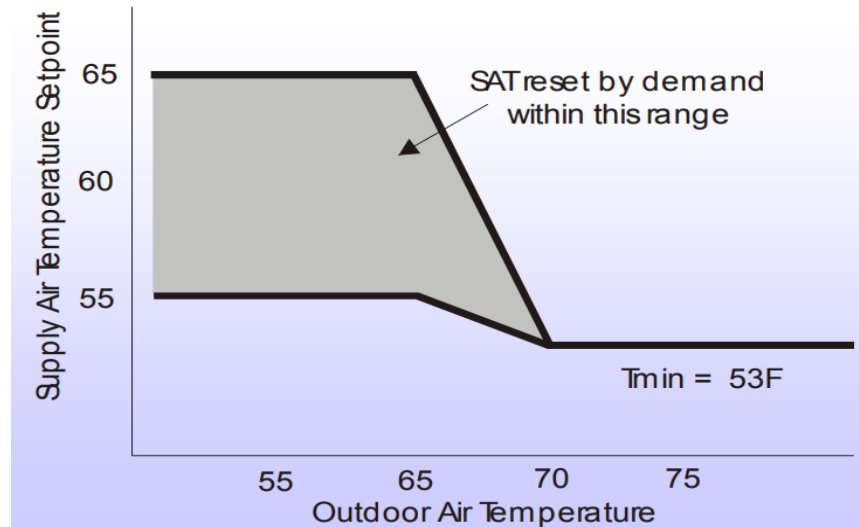

Figure 4. SAT Reset in VAV Systems based on Zone Demand (Taylor and Seidl 2008)
- See Steven Taylor’s recommended algorithm in Figure 4.